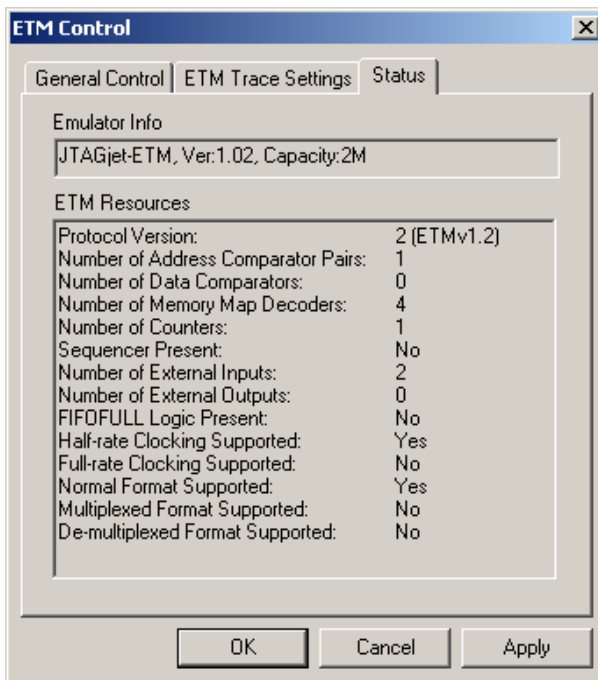

FIGURE 21 ETM Status tab showing the LPC2138 ETM resources
2. Select the Status tab to display information related to the ETM resources embedded into the target ARM device. Please read the contents of the information dialog box and note the description of the ARM device's ETM resources (Figure 21). These resources can vary substantially from one ARM device family to another. Oftentimes, locating such information in the device's data sheet is cumbersome.